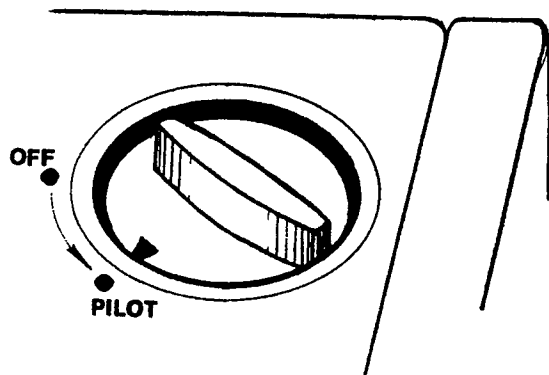

FIG. 8
2. Turn the control knob counterclockwise to PILOT/IGN and depress knob for five (5) seconds. (Figure 8)